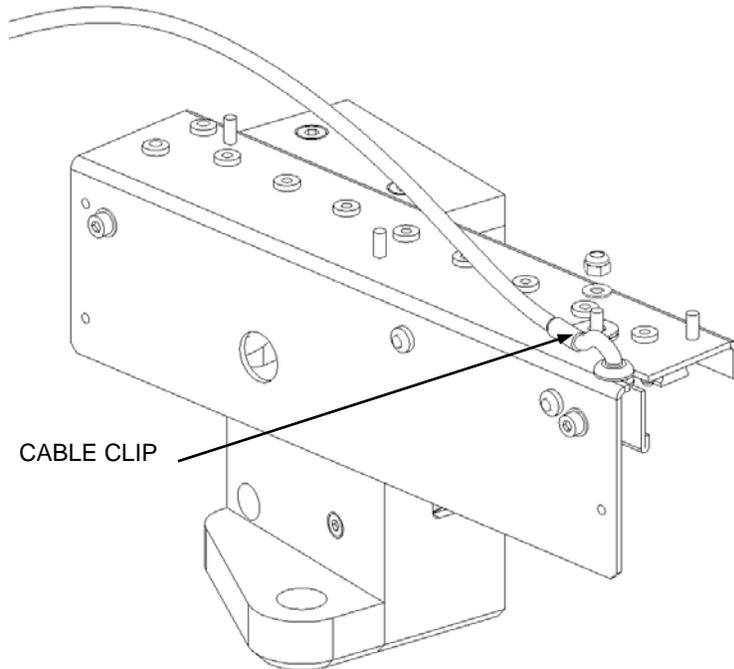

Figure 11-4: Scanner Cable Clip
2. Remove the cable Clip from the underside of the assembly (Figure 11-4).